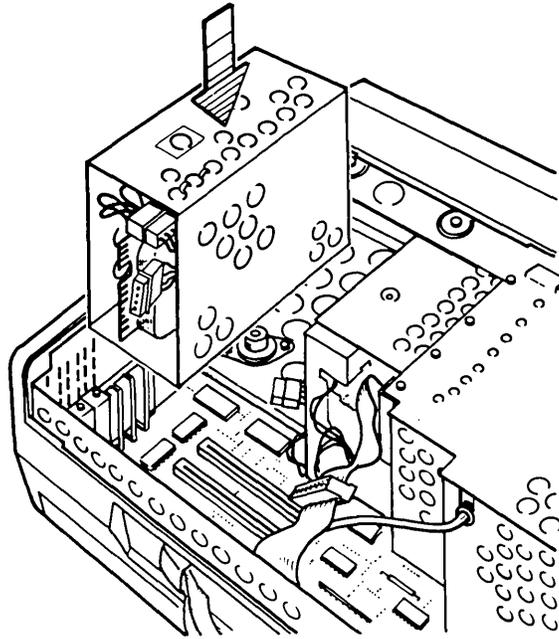

Figure 11-23. Installing the Fixed Disk Drive.
5. Turn the computer back over and carefully slide the fixed disk drive into the computer chassis, (see Figure 11-23), be careful not to bend the grounding strap.